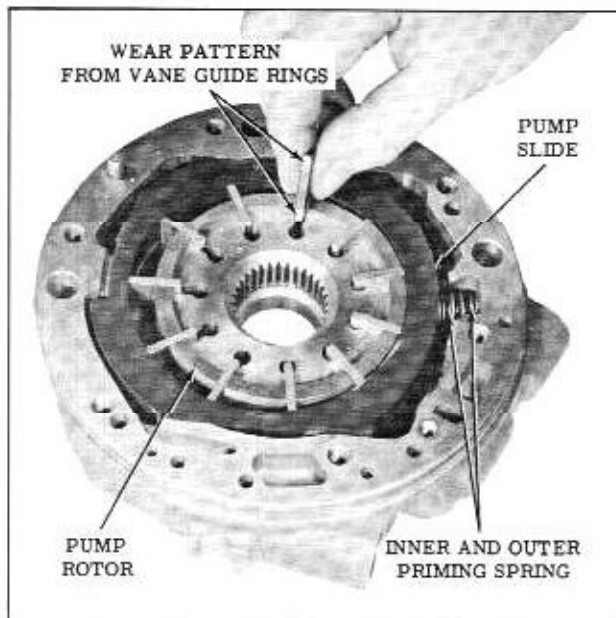

Fig. 3-84 Installing Pump Vanes
7. Install eleven vanes so the vane ring wear pattern on the edge of the vanes faces towards the vane rings. (Fig. 3-84)